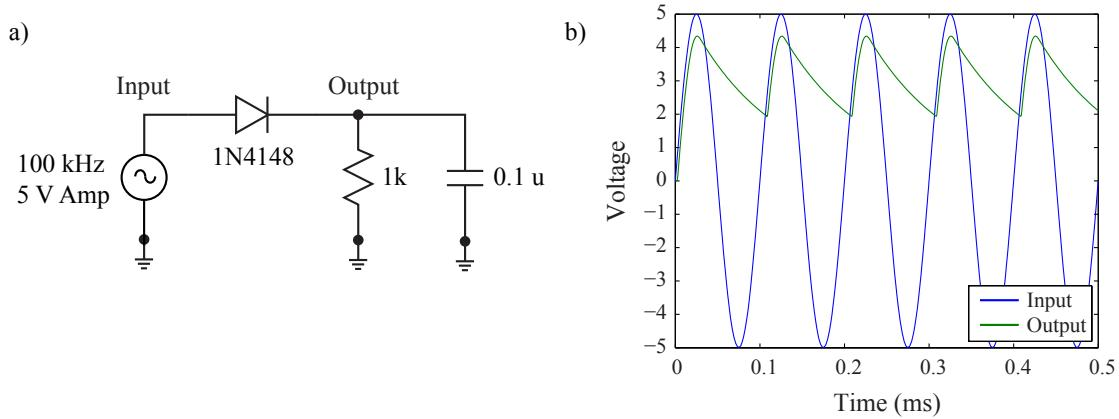

Figure 8.3: A simple half wave rectifier but with a capacitor at the output (a) and the resulting input and output signals (b).
Simply adding a capacitor to the half-wave rectifier results in an AC to DC converter, Figure 8.3. The circuit initially behaves as it did previously, once the input sine wave reaches the forward bias voltage, the output follows the input. However, once the sine wave starts to decrease, the output then discharges as a function of an RC time constant, the process then repeats. For higher input frequencies and capacitances, the output can be approximated as a DC source.
2. Build the circuit in Figure 8.3 (a). Set the input to a 100 kHz, 5 V amplitude sine wave and run a transient simulation with a stop time of 50u (.tran 50u) and step through possible capacitor values using the following spice directive: